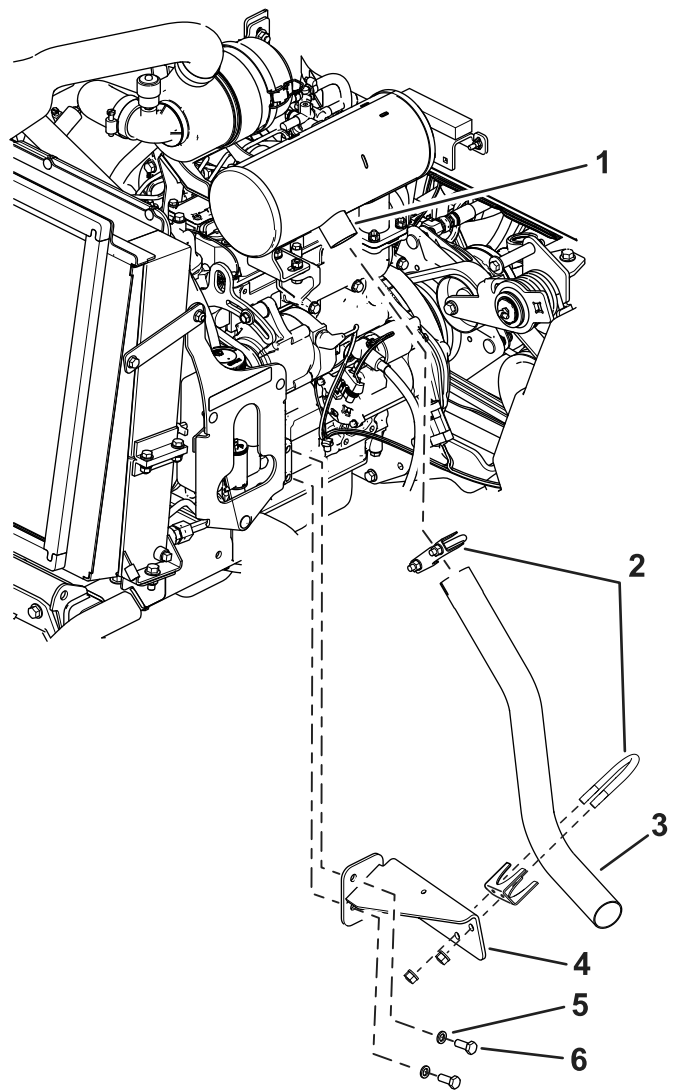

Figure 7
4. Install the new support assembly to the side of the engine with the previously removed washers and engine bolts (Figure 7).
5. Slide the existing clamp over the new exhaust pipe and install the new exhaust pipe onto the muffler outlet (Figure 7).
6. Install the new clamp around the new exhaust pipe and to the support assembly with the clamp hardware (Figure 7).
- Torque the engine bolts to 54 N·m (40 ft-lb) and then tighten all of the clamps (Figure 7).